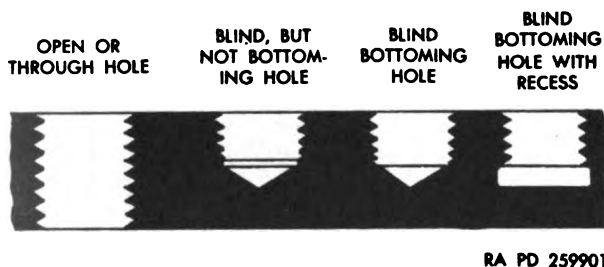
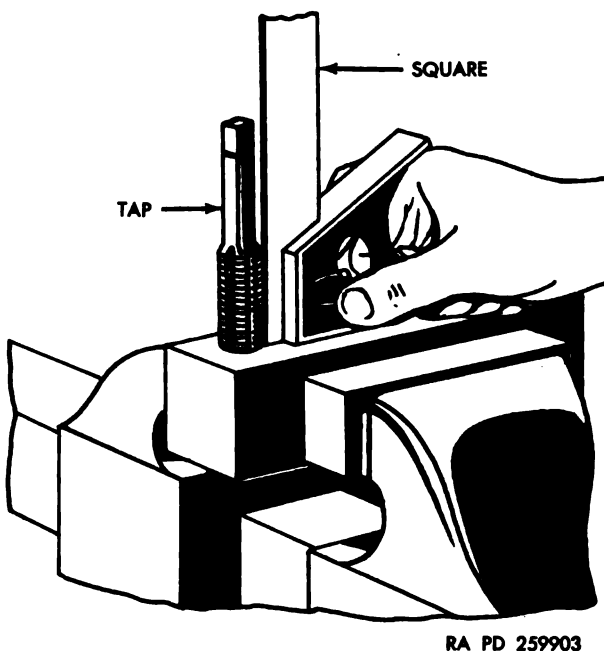

Figure 280. Types of drilled holes.
Figure 282. Checking tap for straightness.
- (1) After the proper size and type hole (fig. 280) is drilled and cleaned, secure the tap in a tap wrench (fig. 270).
- (3) Check the tap for straightness in the hole by using a square, as shown in figure 282. Check to see that the tap is in line with the axis of the hole and at right angles to the face of the work. Check at more than one position around the tap.
- (4) It is not necessary to feed the tap into the hole with any pressure, as the threads will pull it in at the proper rate. Keep the tap straight ((3) above).
- (5) When tapping rough material, after each half turn of the tap in a forward or cutting turn direction, rotate the tap a quarter turn back, then a half turn forward, then a quarter turn back, etc., until the hole is tapped. Use pure lard cutting oil to keep the tap well lubricated when tapping.
- (6) If the hole to be tapped is a blind hole (fig. 280), use a plug tap and finally a bottoming tap (fig. 266) to complete the tapping operation. A bottoming hole is one in which the thread has been tapped as far as the bottom.